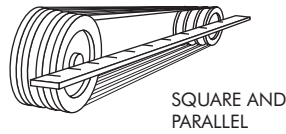

Figure 7
- B. Align sheaves square and parallel by placing a straight edge across the face of the sheaves, Figure 7.